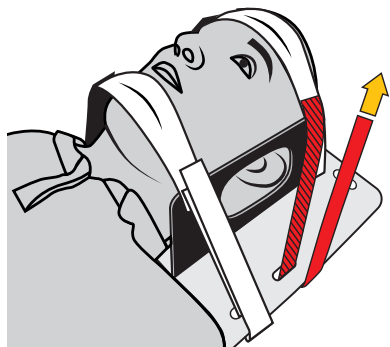

Fig.7
- a) place the patient's head in the head immobiliser and immobilise it using the padded straps (Figs. 7 and 8),